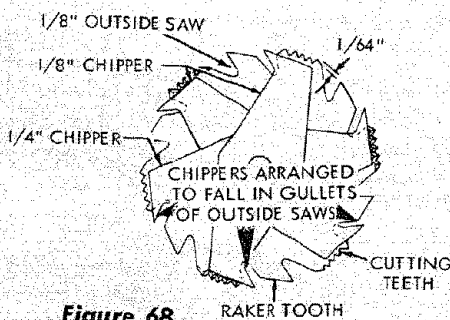

Figure 68
1. The dado saw or head is a special set of blades for cutting grooves and dados with a bench saw. (See figures 68 and 69.) (Dado heads may be purchased at any Sears Retail Store or Catalog Order House.) The head consists of two solid, stiff outside blades, and a number of inside chipper blades. The outside blades are 1/8-inch thick; there is one 1/4-inch, two 1/8-inch, and one 1/16-inch chipper blades. With these blades, grooves of 1/8-inch, 1/4-inch can be cut and additional widths increased in steps of 1/6-inch up to a maximum of 13/16-inch and a maximum depth of 1-3/8-inches.